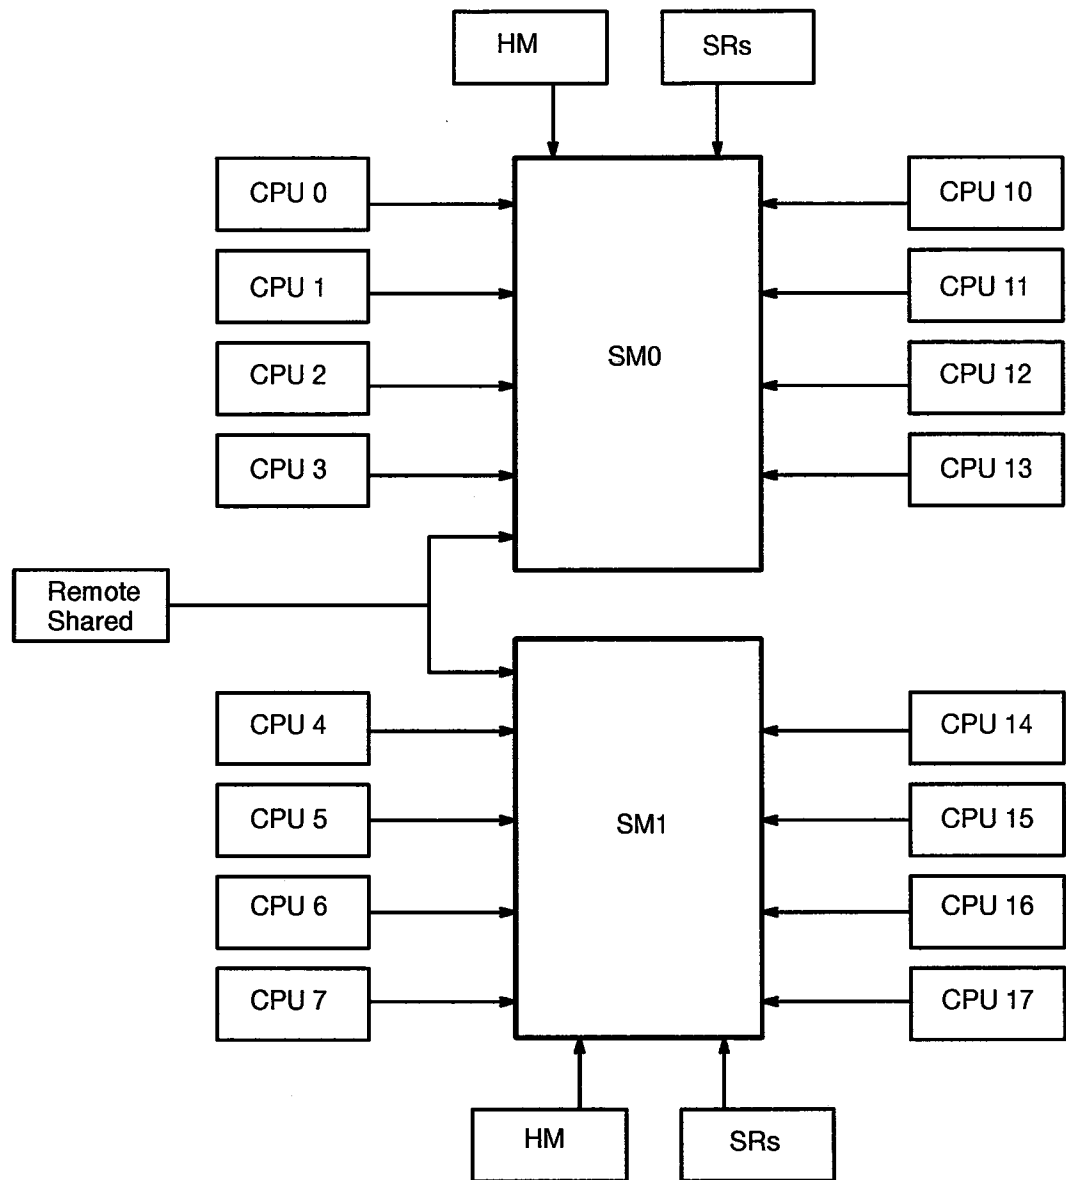

Figure 22. Error Input Sources to the SM Options
Figure 22 shows the various error sources entering the SM options. Each SM option must arbitrate between these sources for the error logger path back to the home port on the I/O module.
Each SM option arbitrates among nine sources to send out error logger messages as shown in Figure 22. There are eight sources for local CPs (four possible from each of two stacks) and one source for the logic monitor (HM) and shared registers (SR) options. The port for each error logger input has a 1-word queue for waiting error messages.